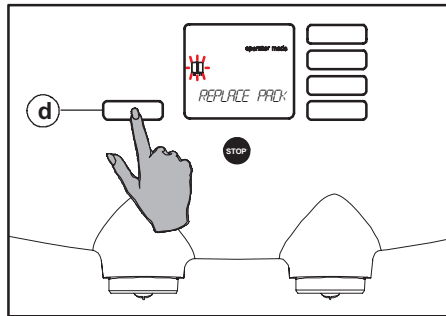

Fig. 48 Replace pack
11. Press the enter button (fig. 48 d). The display shows:
21. The display shows: "PLACE RIGHT" + . Press the enter button (fig. 48 d).
23. Press the enter button (fig. 48 d). The display shows: "PUSH * FLUSH".
24. Press the enter button (fig. 48 d). The display shows: "FLUSH" and a flashing "CAUTION: HOT LIQUIDS". The rinsing water flows into the pot.
28. Press the enter button (fig. 48 d). The display shows: "PUSH * FLUSH".
29. Press the enter button (fig. 48 d). The display shows: "FLUSH" and a flashing "CAUTION: HOT LIQUIDS". The rinsing water flows into the pot.